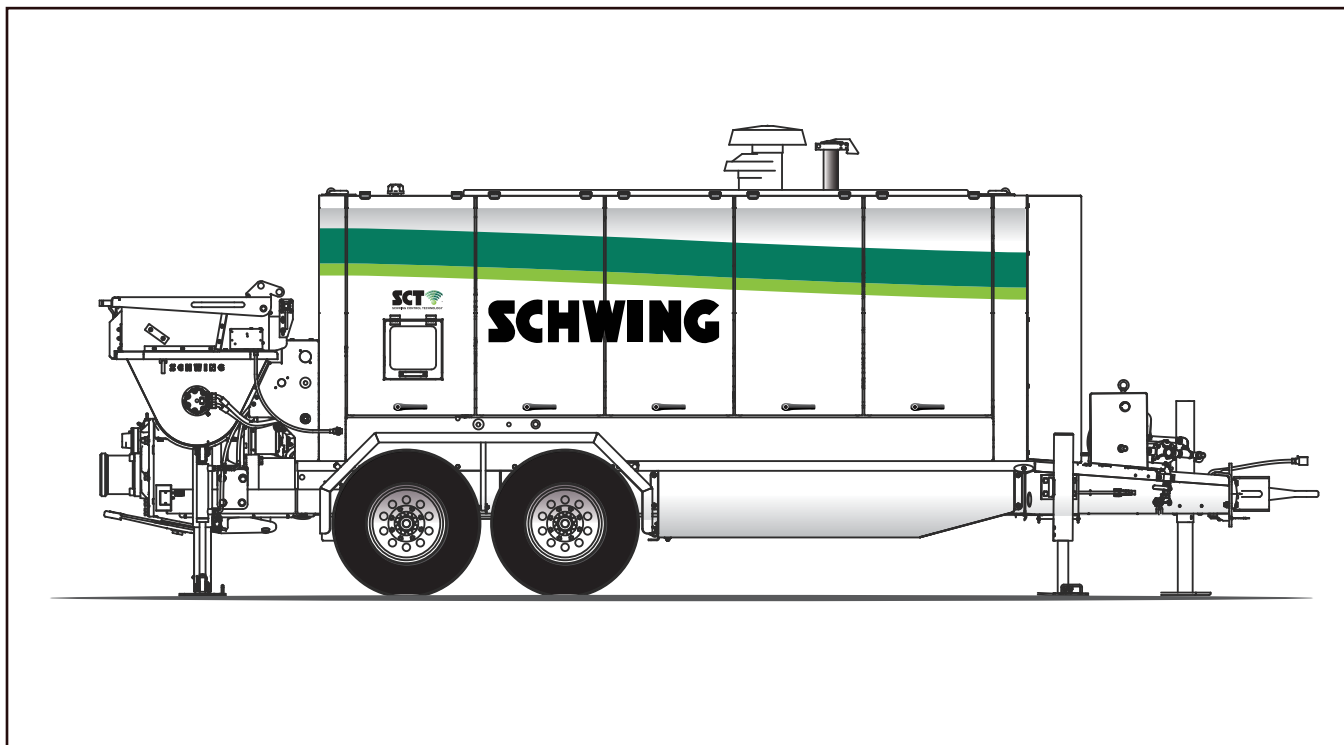

Figure 33
2. At the operator control panel, select pendant control with the pendant/radio remote switch. Press and hold the stroke limiter (+) button on the pendant remote until the stroke limiter is at maximum output (Figure 33).